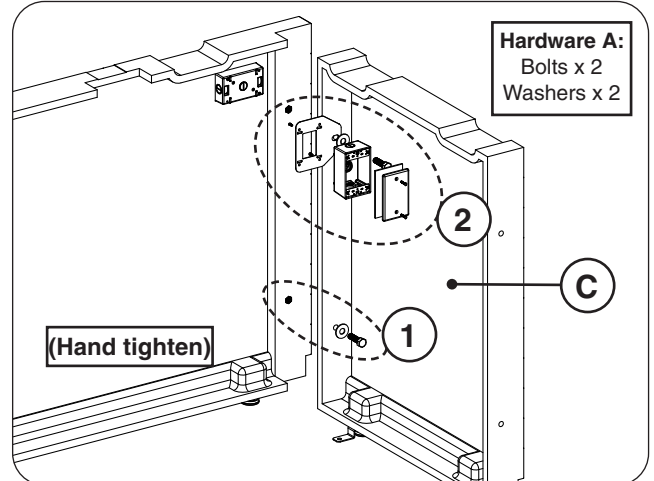
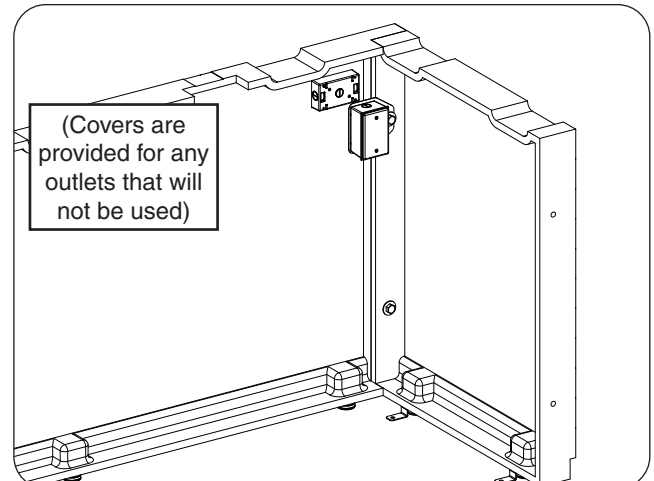

Fig. 7-3 Assemble right side wall and outlet box
Fig. 7-4 Right side wall and outlet box installed
1. Orient the right side wall (C) and repeat the hardware installation process (hardware kit A) for the bottom hardware first. Ensure the top pilot holes are also aligned. Hand tighten only. See Fig. 7-3, step 1.
An outlet box assembly is provided and requires installation. Assemble the box as shown using a flathead screwdriver, then repeat the hardware installation process to secure both the top of the right wall and the outlet box in place. Hand tighten only. See Fig. 7-3, step 2 and Fig. 7-4.